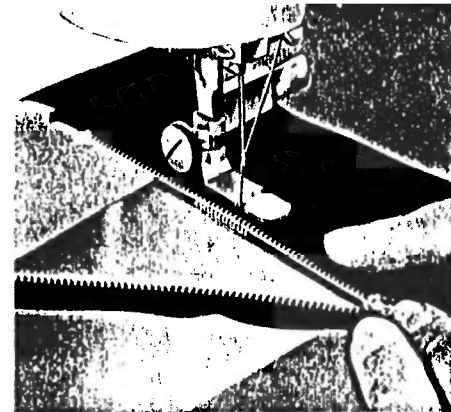

Fig. 44
3. Fig. 44 shows the Zipper Foot set to sew on the right of the needle, close to the edge of the material which is turned to form a placket or opening, so as to avoid striking Zipper links.